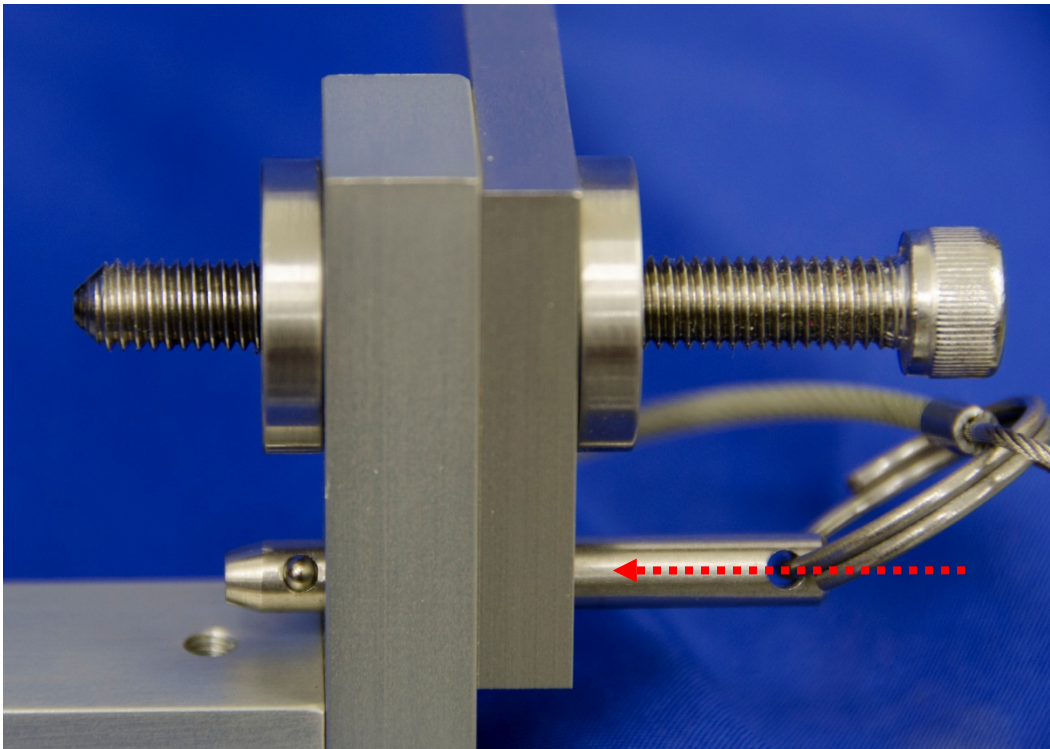

Figure 65. Insert pins into Q3s positioning device
- For this procedure, the pins on either side of Q3s positioning device should both be installed (Figure 65).